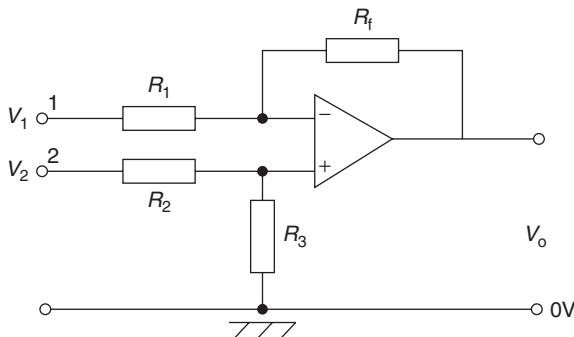

Figure 19.17
The circuit for an op amp differential amplifier is shown in Fig. 19.17 where voltages  $V_1$  and  $V_2$  are applied to its two input terminals and the difference between these voltages is amplified.
**Problem 11.** In the differential amplifier shown in Fig. 19.17,  $R_1 = 10 \text{ k}\Omega$ ,  $R_2 = 10 \text{ k}\Omega$ ,  $R_3 = 100 \text{ k}\Omega$  and  $R_f = 100 \text{ k}\Omega$ . Determine the output voltage  $V_o$  if:
- (a) From equation (10),